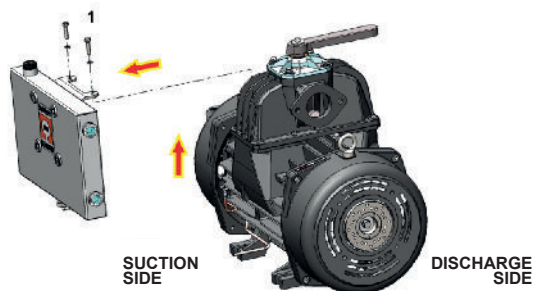

Fig. H.6 - Phase 0020
- Unscrew the two M8x35 screws (**pos.1 Fig. H.6**) (spanner ch13) and remove the tank with "L" support.